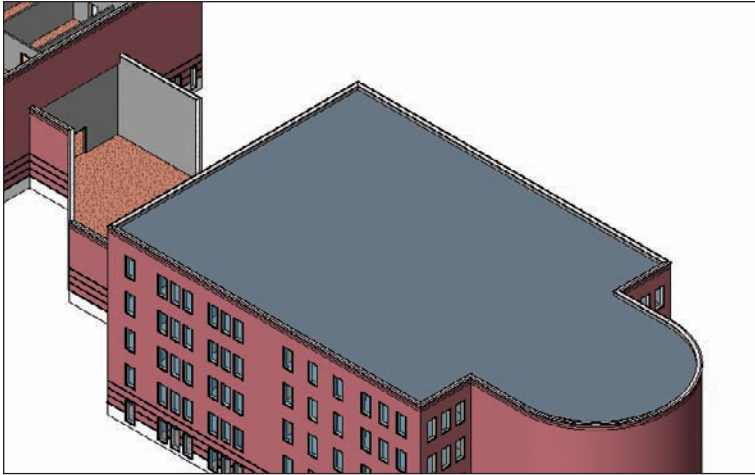

FIGURE 7.4 The roof has been added. We still have a lot of work to do, though.
13. Go to a 3D view, as shown in Figure 7.4.